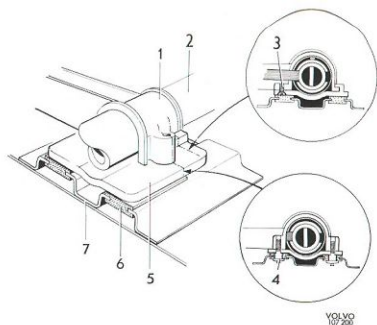

Fig. 6-52. Upper attachment
3. Drill off the collars on the shear bolts (4, Fig. 6-52). Start with a small drill and finish with, for example, a 13 mm (1/2") one. The bolt guide has a diameter of 12 mm (15/32").
4. Remove the attaching bolts and take off the left impact guard and side member (7) with slide piece (6).
5. Screw out the bolt (3) and unhook the attaching plate (5).
1. Fit the new steering wheel lock and the electrical part in position. Hook on the attaching plate (5, Fig. 6-52) and screw in the bolt (3). Check the locking function.
2. Fit the side member (7) with the slide piece (6) which must be in good condition. Fit the impact guard.
3. Fit the shear bolts (4) but do not shear off the heads.